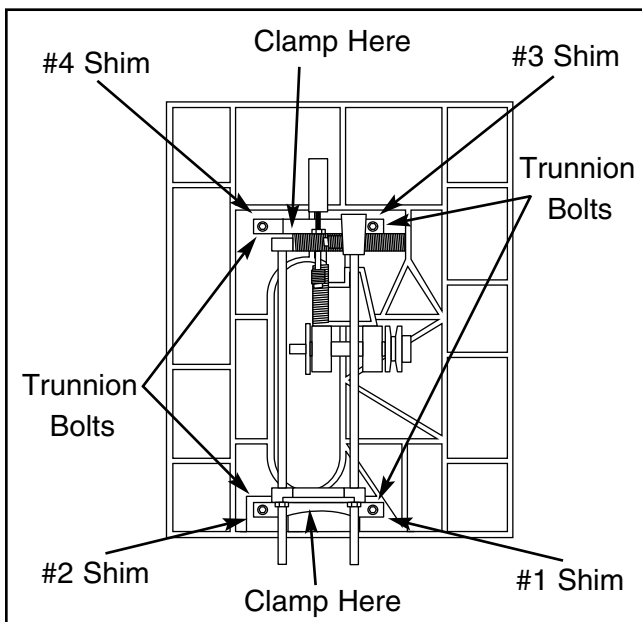

Figure 61. Underside view of table/trunnion assembly.
12. To maintain the trunnion assembly as one unit, place a bar clamp across the entire trunnion assembly as shown in **Figure 61**.